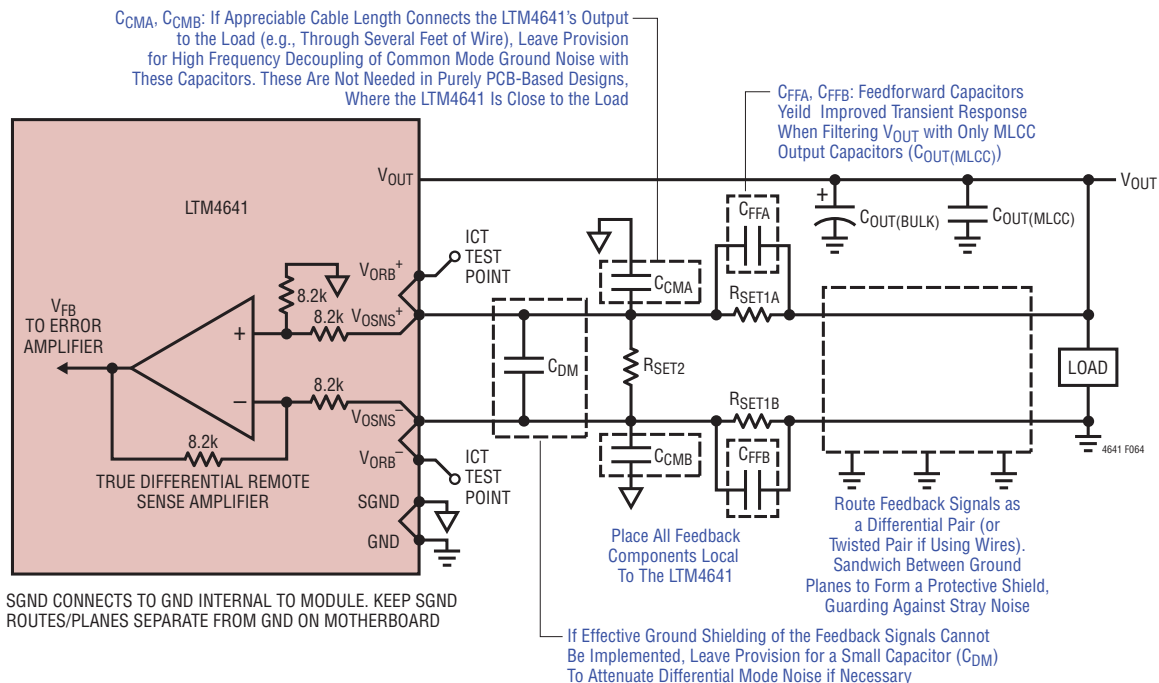

Figure 64. Feedback Remote Sense Connections and Techniques for Harsh Operating Environments
- Place all feedback components as close to the module as possible, giving layout priority first to capacitors C_{FFA} , C_{FFB} , C_{CMA} , C_{CMB} and C_{DM} (if used)—followed next by R_{SET1A} , R_{SET1B} and R_{SET2} (if used). See Figure 5 in the Applications Information section and Figure 64 in Appendix D for more details. Maintain differential routing of the remote-sense lines between the load and the module. Form a “coaxial cable” structure that surrounds the remote-sense lines with GND potential within the PCB, to the extent that layout permits. See an example of routing the VOUT/GND remote-sense pin pair in Layer 3 of DC1543.
The rationale for using the symmetrical resistor network is to provide a consistent feedback structure that enables fully differential remote-sense of output voltages between 0.6V and 6V with the flexibility to filter differential and common mode noise in harsh environments. See Figure 64. The use of not greater than 8.2k Ω nominal resistors for R_{SET1A} (and R_{SET1B}) assures that the remote-sense signal is not attenuated at frequencies of interest by the pole formed by the feedback resistors and parasitic capacitances. Fur-